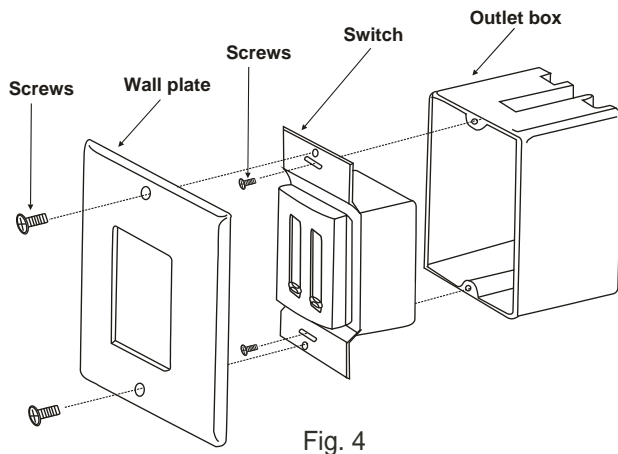

Fig. 4
5. Attach the Speed/Light Switch to the wall outlet box and secure with the two screws provided. (Fig 4)
6. Attach the wall plate to the switch with the two screws provided. (Fig. 4)